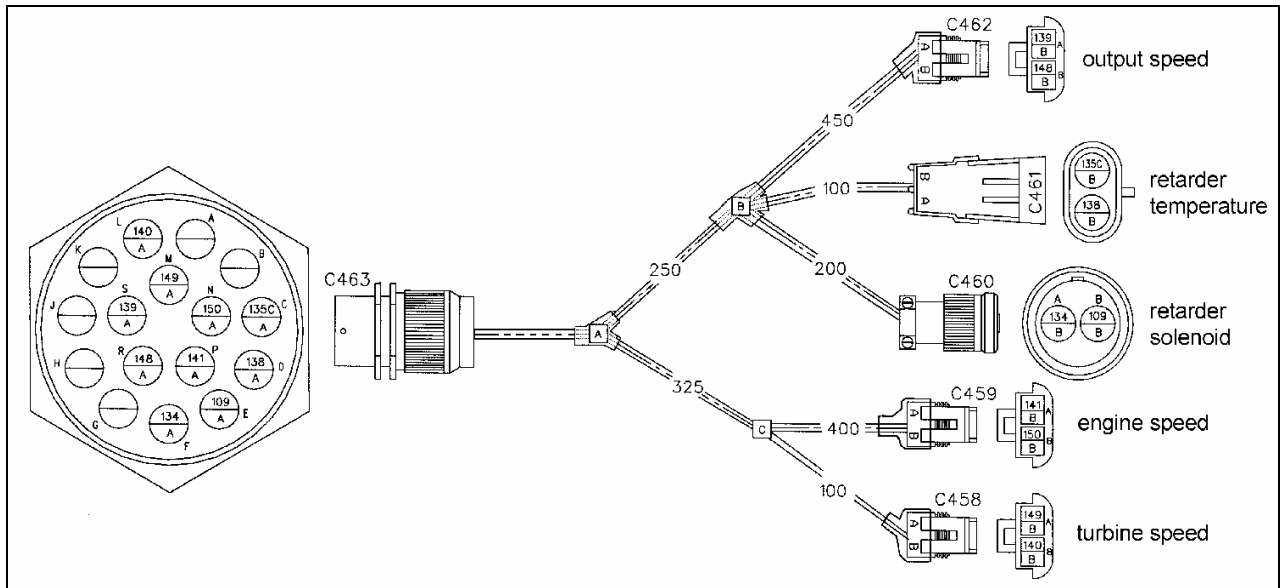
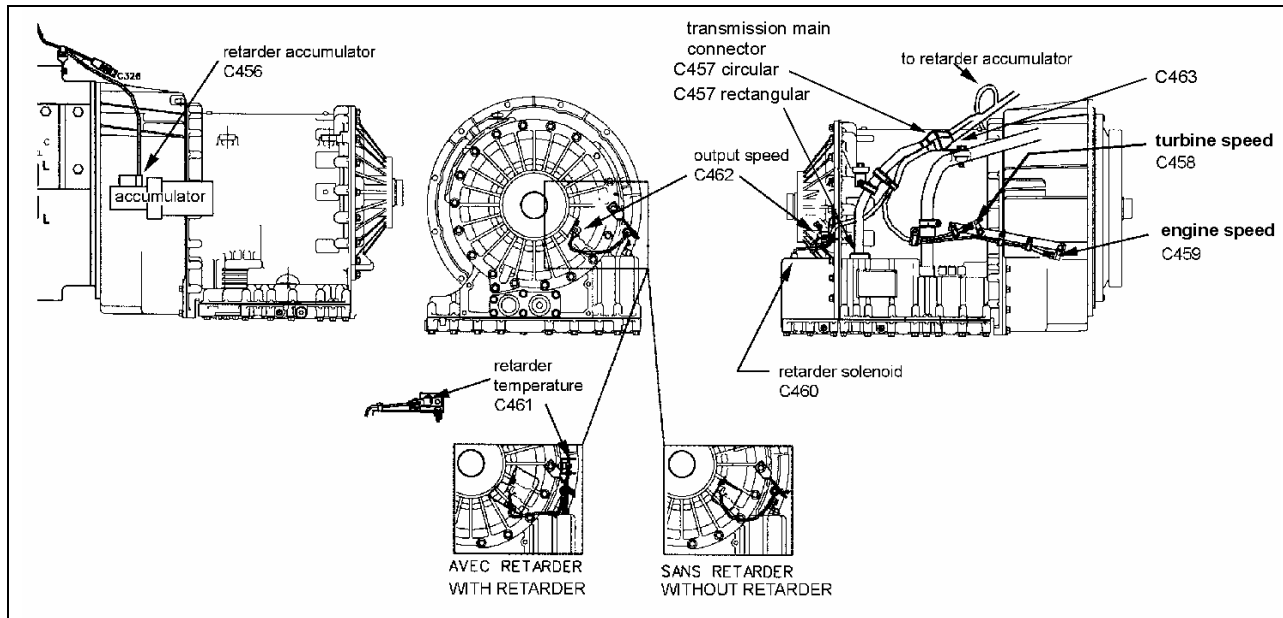

FIGURE 1: #064237 transmission harness
FIGURE 2: Harness #064237 (XL+H3), #064238 (H3) & #064239 (XL) connection location
1. Disconnect all the existing transmission harness connectors which are located on the transmission casing (XL+H3) and also the connectors located inside the rear electrical compartment (H3) and inside the front service compartment (XL+H3) at the other end of the transmission harness (see figure 2 & 3 as reference).
2. Plug the transmission harness (#064237) connectors (figure 1) as shown in figure 2. For vehicles not equipped with a transmission retarder, secure the retarder related connectors on the harness using nylon ties.
4. Inside engine compartment, plug connector C463 to C463 of #064237 harness and fix the harness using nylon ties. Plug connector C456 to transmission retarder accumulator (figure 2 & 3). Plug connector C457 to transmission main connector C457. Transmission main connector may be located in two different places depending if it is a rectangular type (Packard) or circular type (see figure 2 for location of the main connector).